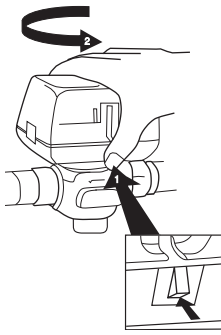

Fig. 6. Latch Mechanism to detach Actuator
4. The actuator head is automatically latched to the valve. To remove, press up on the latch mechanism located directly below the white manual open lever with thumb (See Figure 6). Simultaneously press the actuator down towards the body with moderate hand force and turn the actuator counter-clockwise by 1/8 turn (45 degrees). Lift actuator off the valve body.